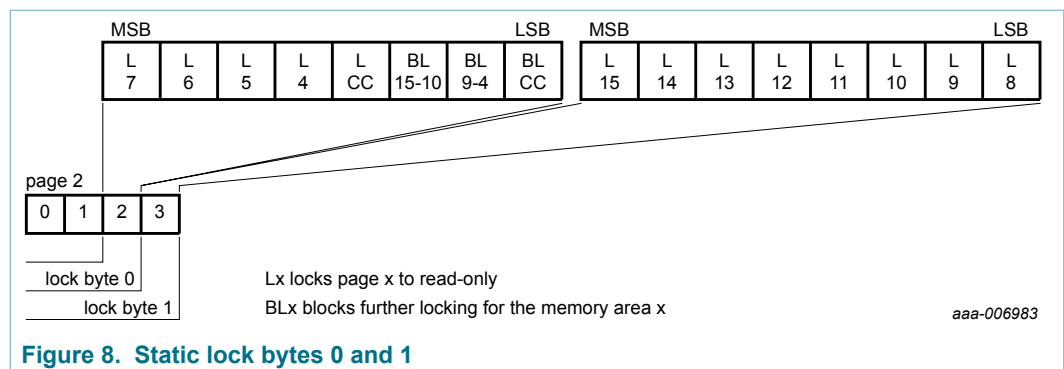

Figure 8. Static lock bytes 0 and 1
According to NFC Forum Type 2 Tag specification, the bits of byte 2 and byte 3 of page 02h (via NFC) or byte 10 and 11 address 00h (via I²C) represent the field programmable, read-only locking mechanism (see Figure 8). Each page from 03h (CC) to 0Fh can be individually locked by setting the corresponding locking bit to logic 1b to prevent further write access. After locking, the corresponding page becomes read-only memory.
To lock the pages of NTAG I²C *plus* starting at page address 16 and onwards, the dynamic lock bytes are used. The dynamic lock bytes are located in Sector 0 at page E2h. The three lock bytes cover the memory area of 840 data bytes (NTAG I²C *plus* 1k) or 1864 data bytes (NTAG I²C *plus* 2k). The granularity is 16 pages for NTAG I²C *plus* 1k (see Figure 9) and 32 pages for NTAG I²C *plus* 2k (see Figure 10) compared to a single page for the first 48 bytes (see Figure 8).